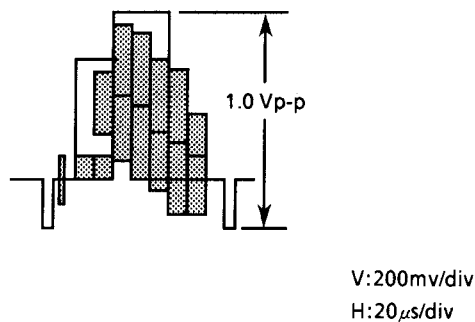

Figure 2-8.
2. Play the colour bar portion of the alignment tape and adjust R201 so that the signal amplitude is 1.0Vp-p as shown in Figure2-8.